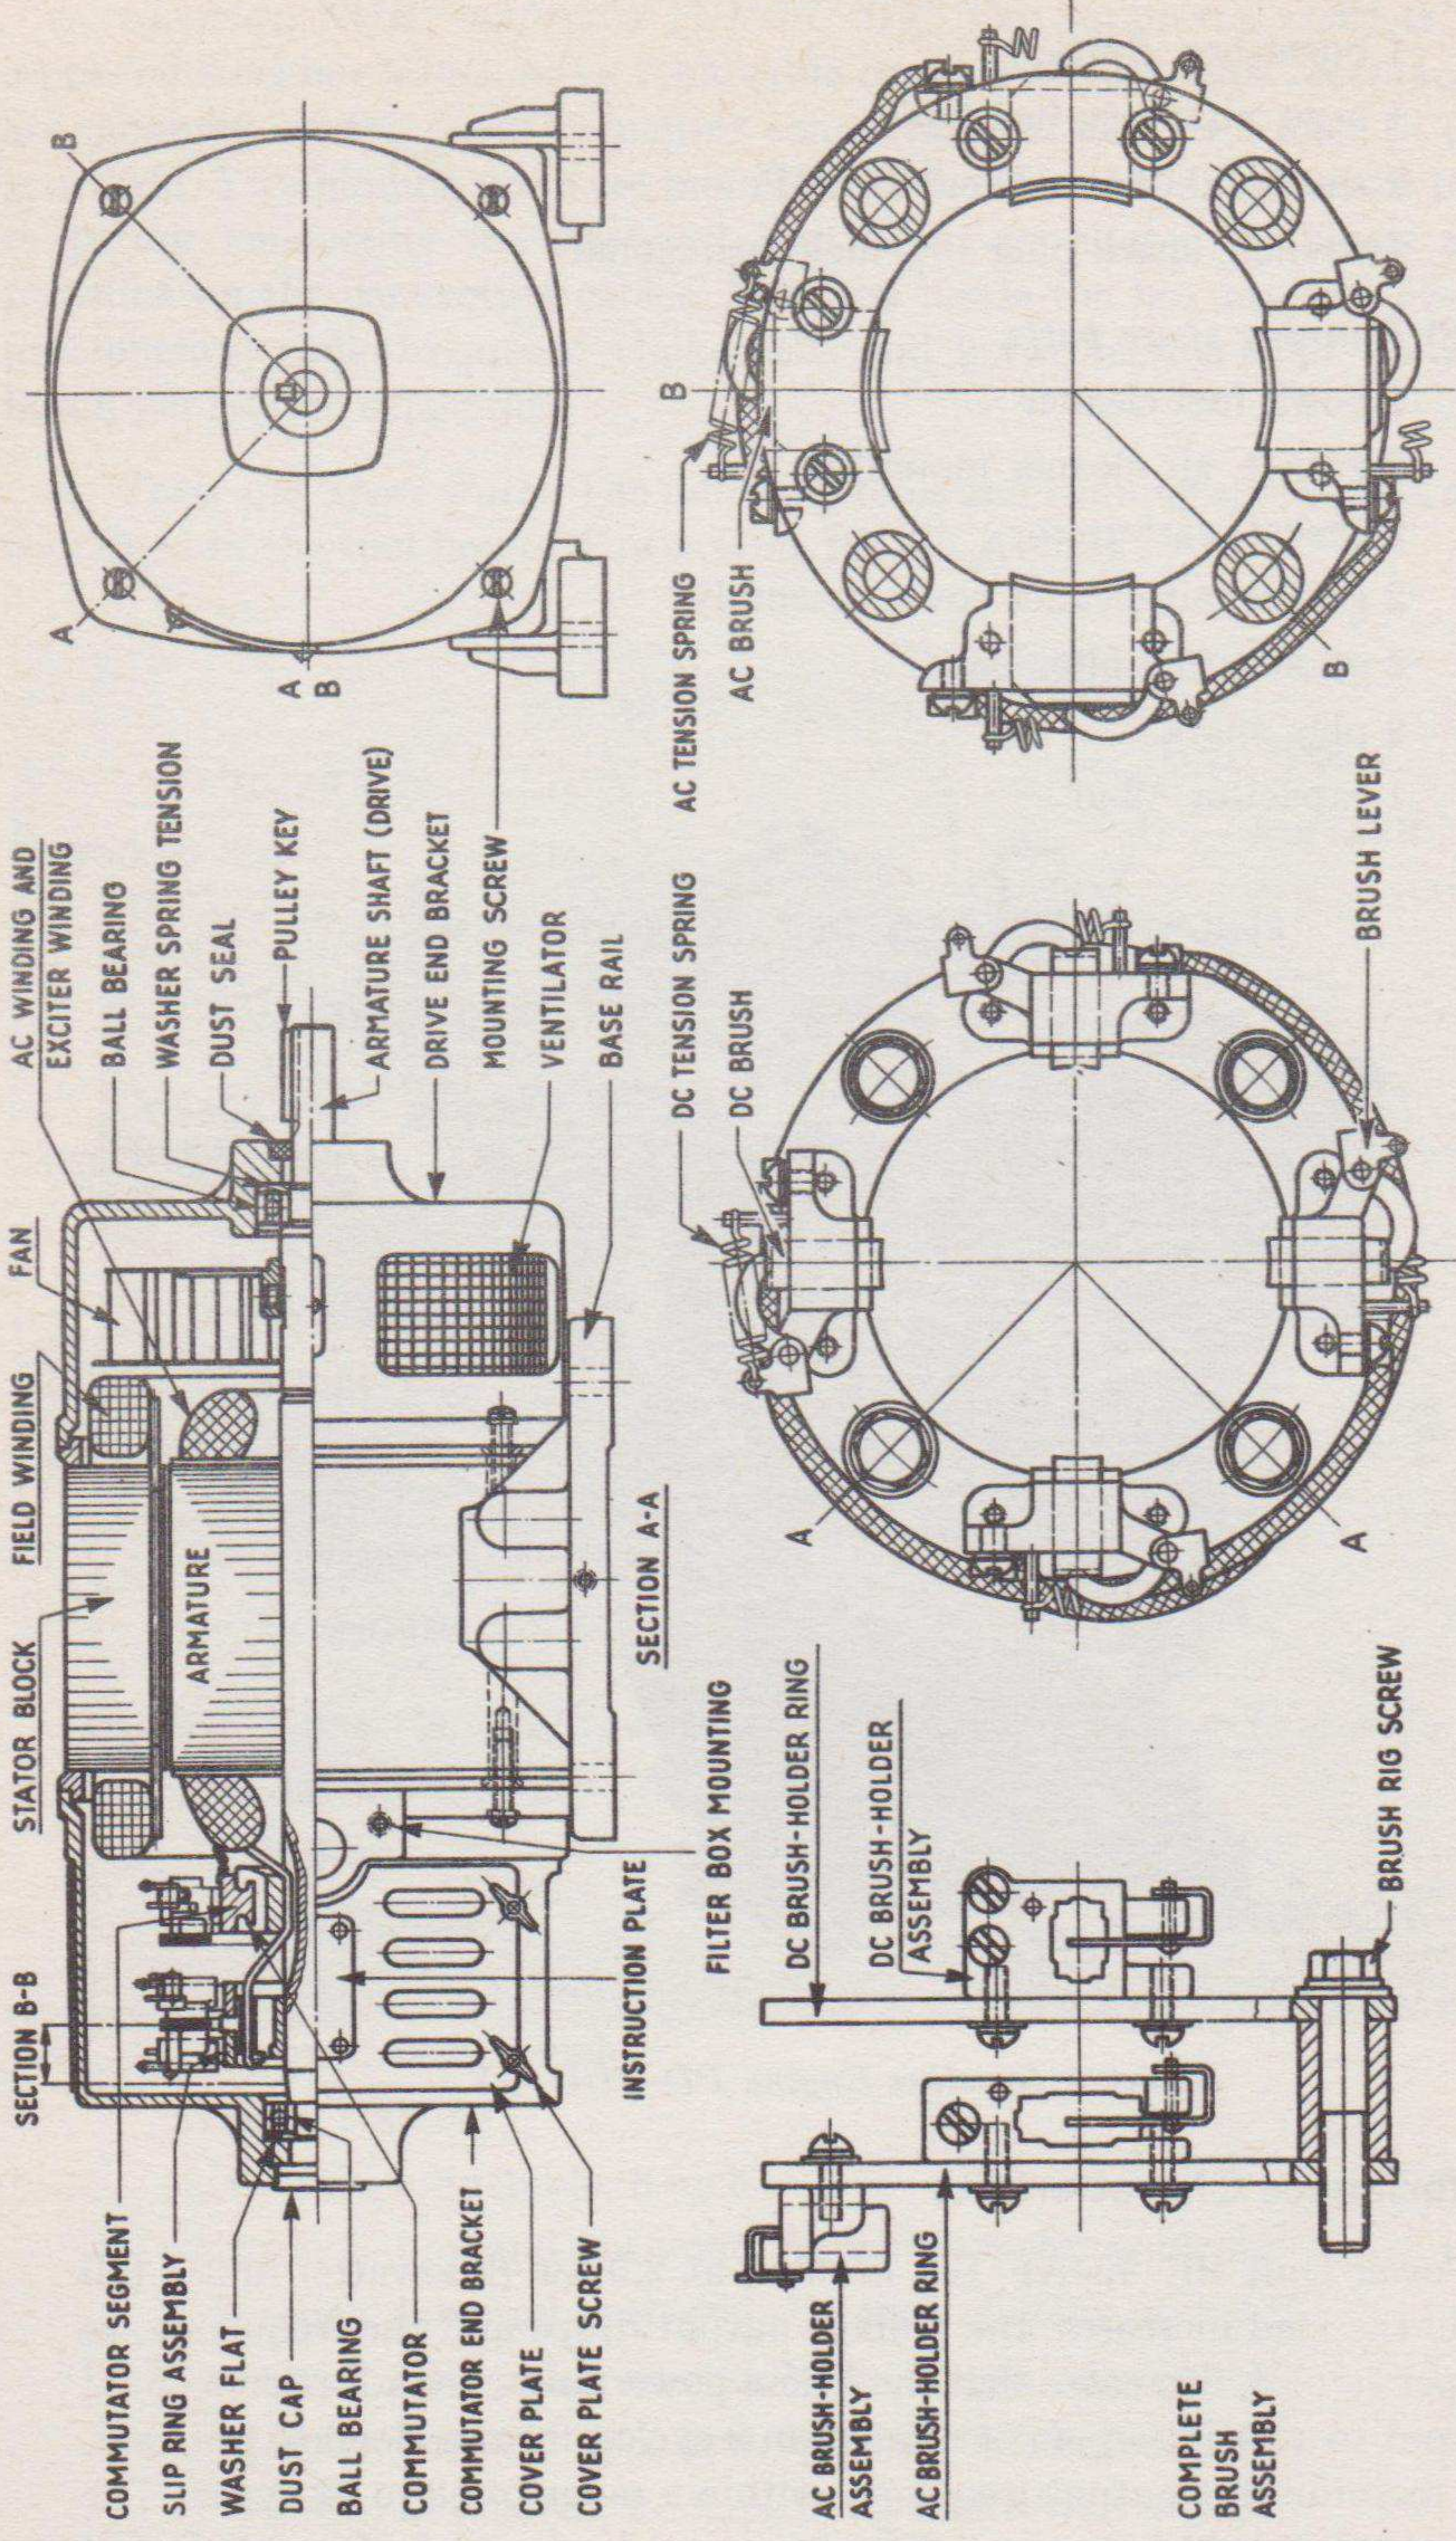

Figure 5. Alternating current Generator G-40/U-GY.
b. *Alternating Current Generator G-40/U-GY* (fig. 5). The main electrical component of Power Unit PE-75-AF-GY is Signal Corps Generator G-40/U-GY. These generators are supplied by C. LORENZ AG., Germany. They are 100 percent interchangeable with generators manufactured previously by Leland or Kurz-Root. They are self-excited, self-regulated, single-phase, compound wound, and are of two-wire, semi-enclosed, drip-proof construction. They are designed to generate 120-volt, 60-cycle ac when driven at a speed of 1,800 rpm. They are rated at 2,500 watts 100 percent power factor. Compound armature windings deliver 36 volts of dc (direct current) to a commutator and 120 volts ac to the slip rings. The stator field windings are excited by dc which is picked up from the commutator by the d-c brushes. The generator of Power Unit PE-75-AF-GY is driven through a double-groove pulley which is attached to one end of the armature shaft.